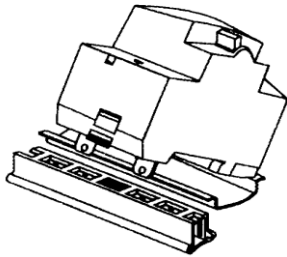

Fig 5.1
- Clip the desired RCCB onto the mounting rail and push fully home. (**Fig 5.1**)